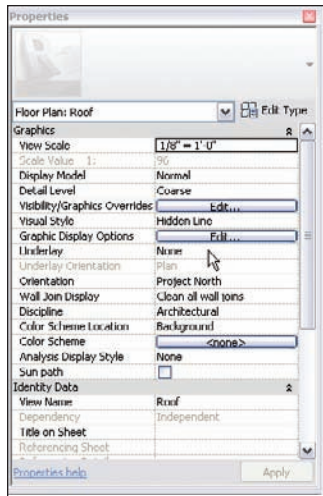

FIGURE 7.1 Changing the view's Underlay to None
4. Find the Underlay row and select None from the menu, as shown in Figure 7.1.